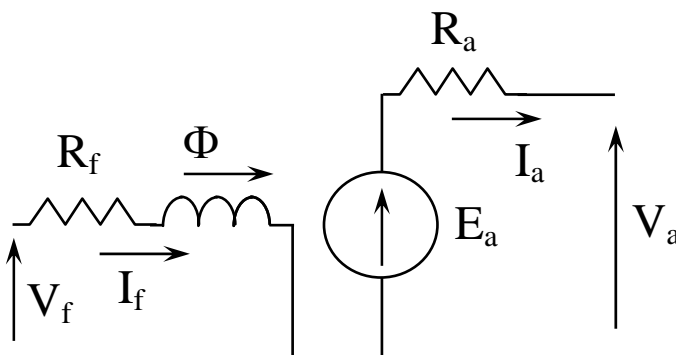

Figure 1 Equivalent Circuit of a DC Machine
- By referring to figure 1, we can see that the magnetic field is generated by the field current I_f .
Figure 1 show the equivalent circuit of DC machines